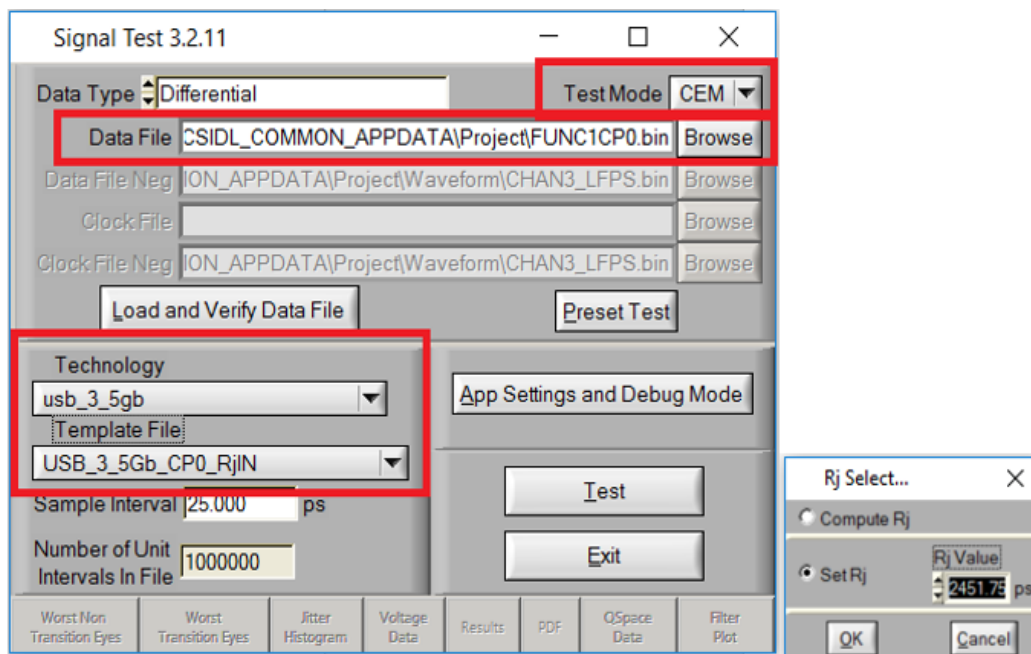

Figure 25 SigTest tool settings for measuring DJ, TJ and Eye Height
- 12 Load the waveform file. Select the options for Technology and Template File as shown in Figure 25.